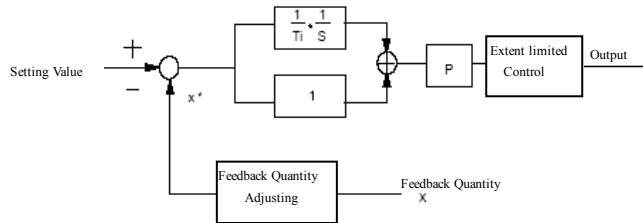

Fig 5-10 PI Adjusting
· Proportion Gain (P) and Integration Time (Ti) as shown in Fig 5-10. Sampling Cycle refers to that of feedback quantity x. Ti as shown here refers to Integration Time. The bigger Ti is, the slower the system responds; the smaller Ti is, the faster the system responds, but it is to surge. Contrariwise with Proportion Gain (P).